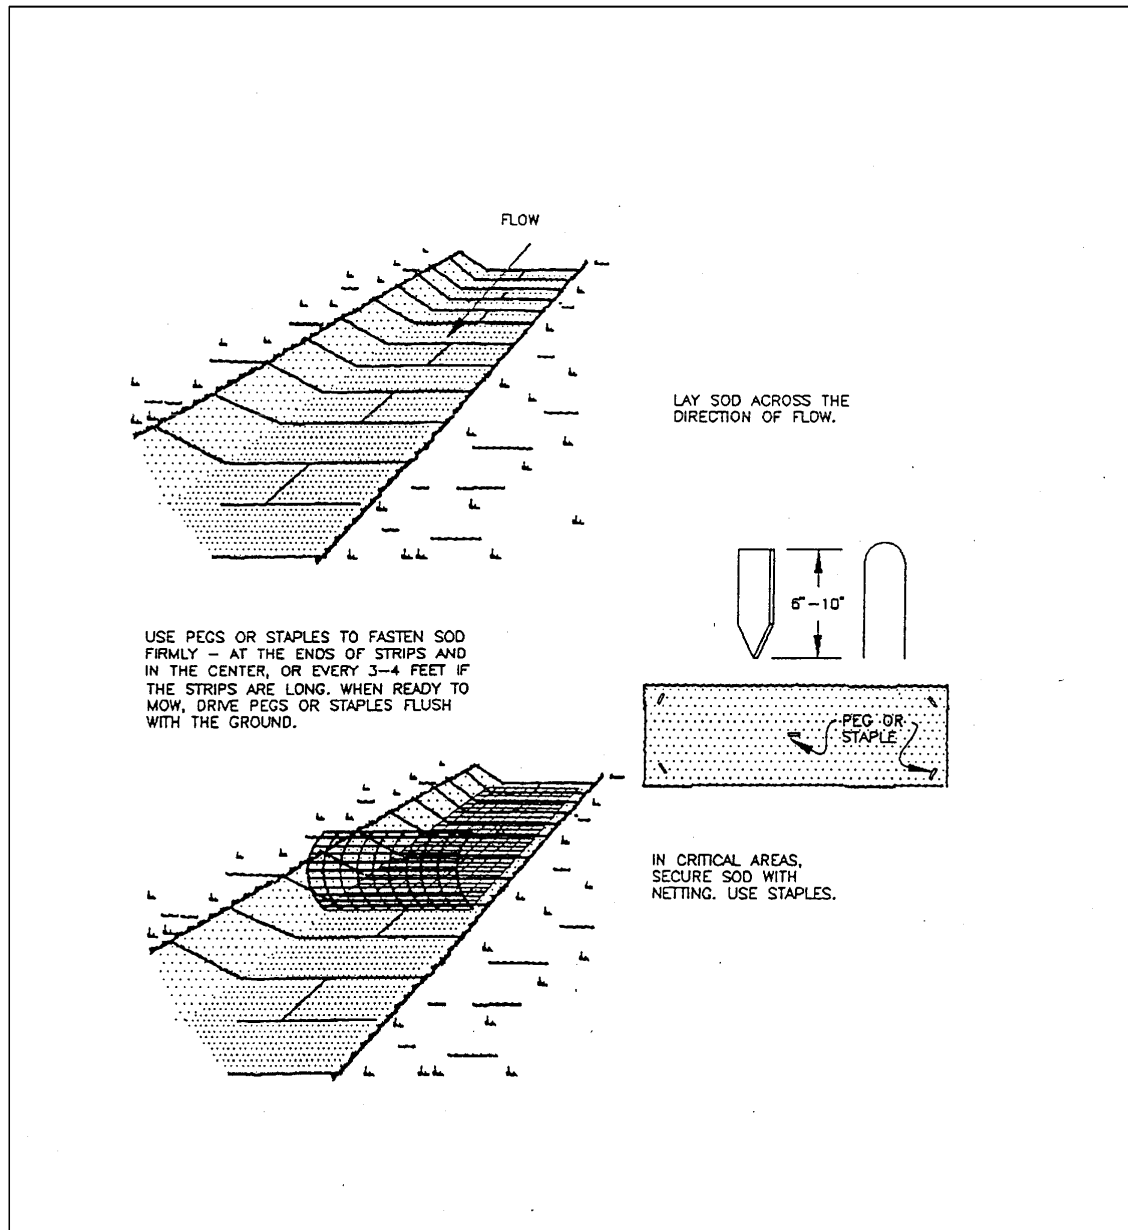

Figure 7.6b. Sodding Swales and Waterways
1. Irrigate areas to be sodded with a minimum of ½ inch (13 mm) of water, unless recent rains have provided an equivalent amount of moisture (see Figure 7.6b).